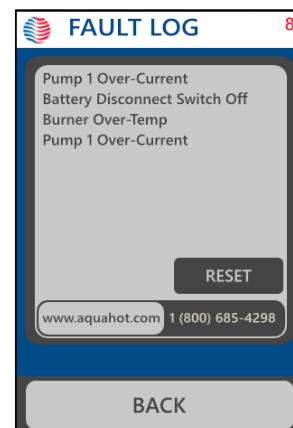

Figure 90
- Locate the high-limit thermostats (3) within the Aqua-Hot. Test these thermostats for functionality, and replace them if necessary. Reference page 23.
- Make sure there are no faults displayed on the LCD screen. Reference Figure 90.